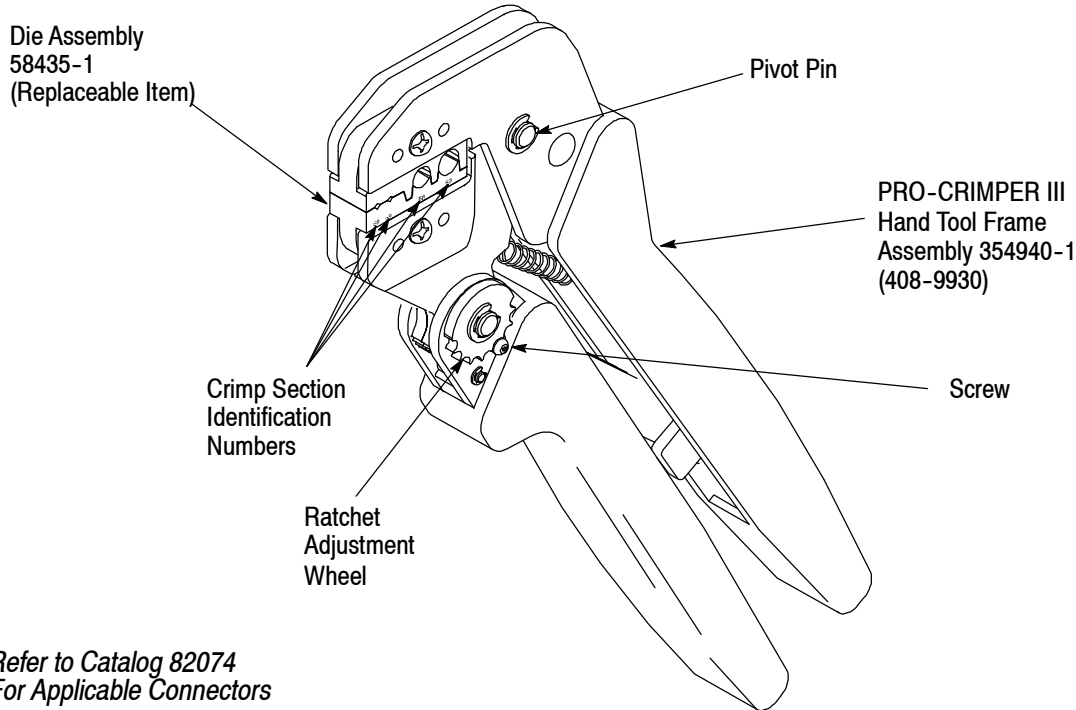

Figure 1
PRO-CRIMPER III Hand Crimping Tool 58433-1 (Figure 1) is designed to crimp 50-Ohm Commercial BNC and TNC plugs and jacks onto RG 58/U, RG 59/U, and RG 62/U cable.
2. DESCRIPTION (Figure 1)
Customer-replaceable parts are shown in Figure 1. Available separately, PRO-CRIMPER III Repair Kit 679221-1 includes a variety of pins, rings, screws, and springs. If the dies are damaged or worn excessively, they must be replaced. Order the repair kit and replaceable parts through your TE Connectivity Representative, or call 1-800-526-5142, or send a facsimile of your purchase order to 1-717-986-7605, or write to: